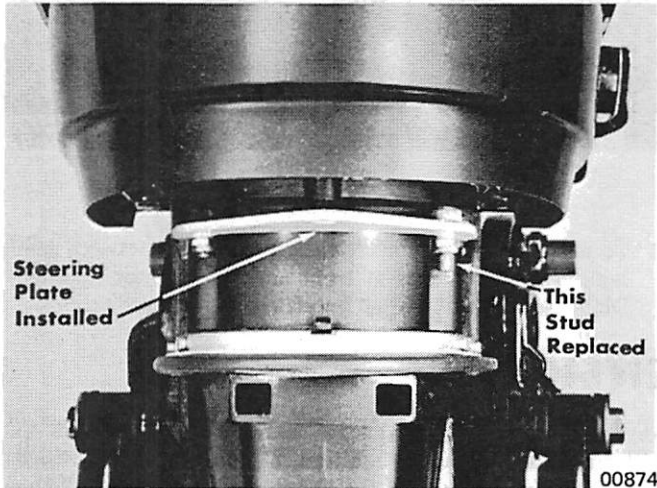

Figure 1. Removing Right (Starboard) Rear Stud
3. Remove right (starboard) rear stud from both engines by using 2 jam nuts. (Figure 1)
5. Attach steering plate assembly (welded bushing faces up) on both engines with the thin elastic stop nuts in kit. (Figure 1)